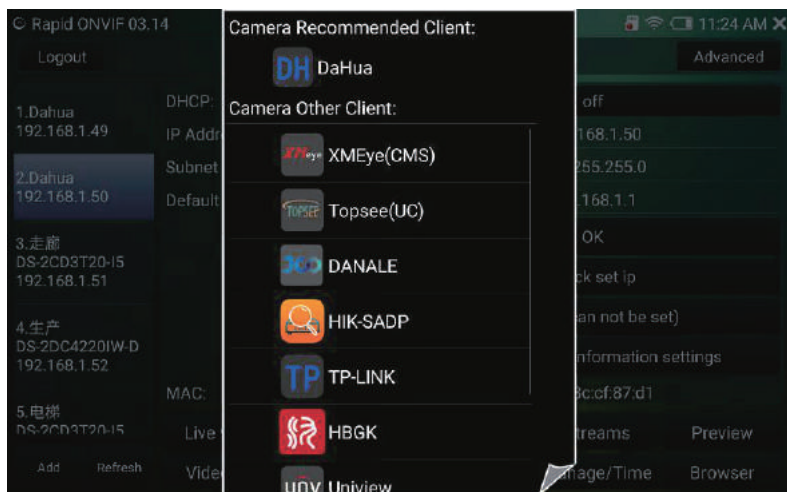

Figure 24
4) For cameras unable to edit IP: in rapid ONVIF App, touch IP Set button to set IP, if it cannot be set, touch 'More' button in the middle, it will list out all camera clients and recommend you to use the corresponding client software, touch to enter client and finish setting, as shown in Figure 24